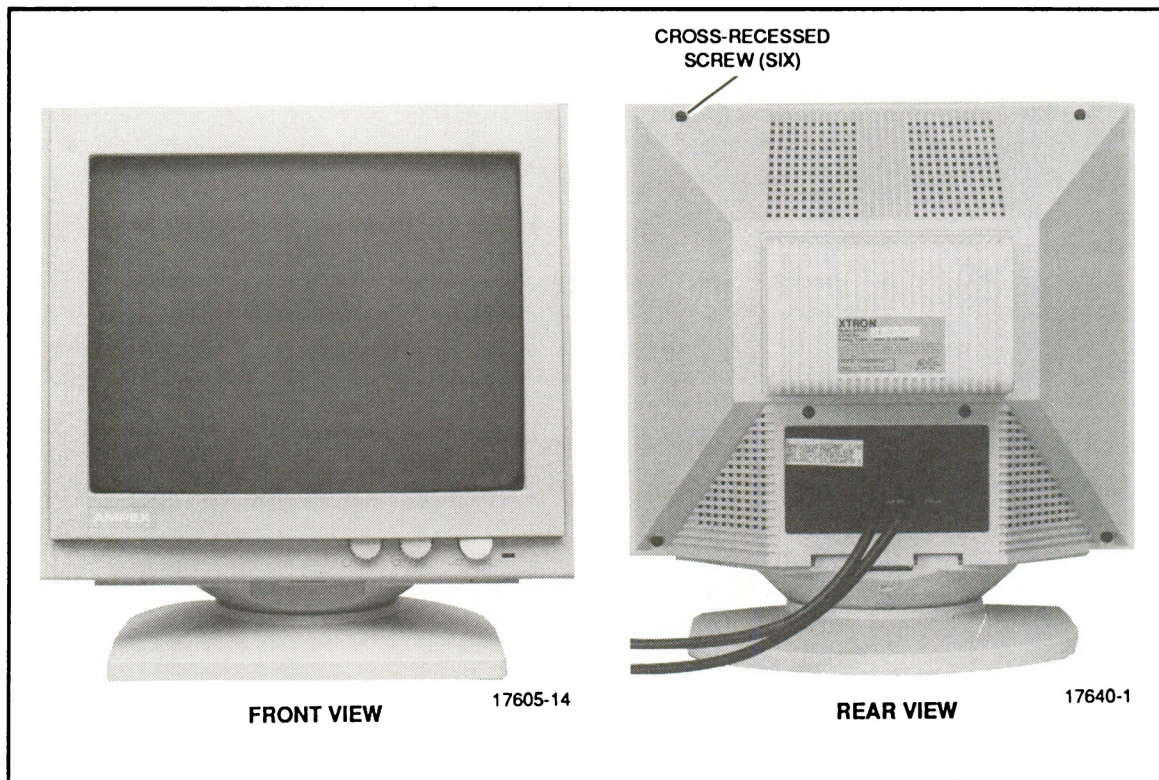

Figure 16-6. Data Monitor
The Tabletop Data Monitor (P/N 1430983) is a 14-inch, high-resolution, monochrome monitor with detachable base. Figure 16-6 shows front and rear views of the monitor. The built-in power supply can be used with 95-135 Vac or 190-270 Vac by changing the power jumper. Figure 16-7 is a functional block diagram of the data monitor.
2. Remove six cross-recessed screws securing rear cover (refer to Figure 16-6).